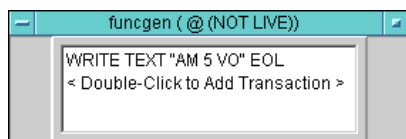

Figure 3-7 A Single-Text-Command I/O Transaction
- 7 Edit the fields in the For Range object as follows. See Figure 3-7.